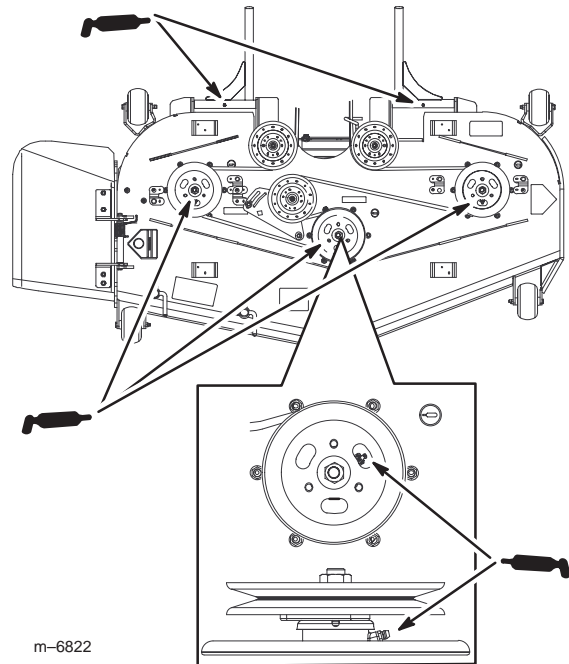

Figure 49
4. Grease the three spindle bearings under the pulleys until grease comes out the lower seals (Fig. 49).
5. Grease the fittings on the push arms (Fig. 49).